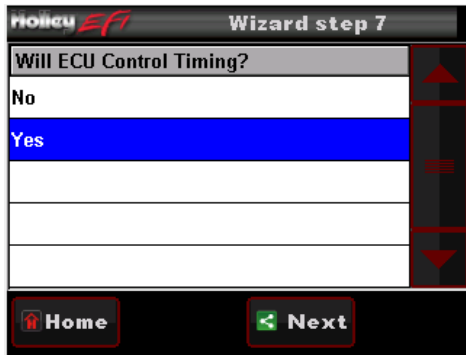

Figure 23
9. Next, you need to select whether the ECU will be controlling the ignition timing (Figure 23). Select “Yes” ONLY if you are using a GM small cap computer controlled HEI distributor or Ford TFI distributor. These are the only ignition distributors that allow the ECU timing control using the TERMINATOR™ system. All other ignition/distributor types must be a standard mechanical advance type used on any carbureted application. If you select “Yes”, proceed to step 10. If you select “No”, proceed to step 11.